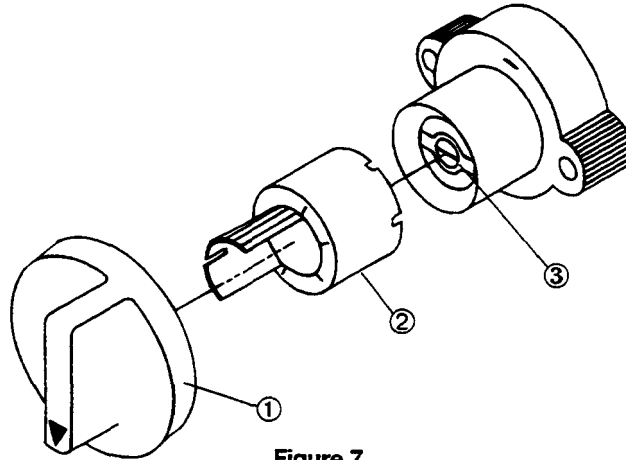

Figure 7
3. Remove indicator knob  from dial stem  and insert dial stem  back on thermostat. Refer to Figure 7.